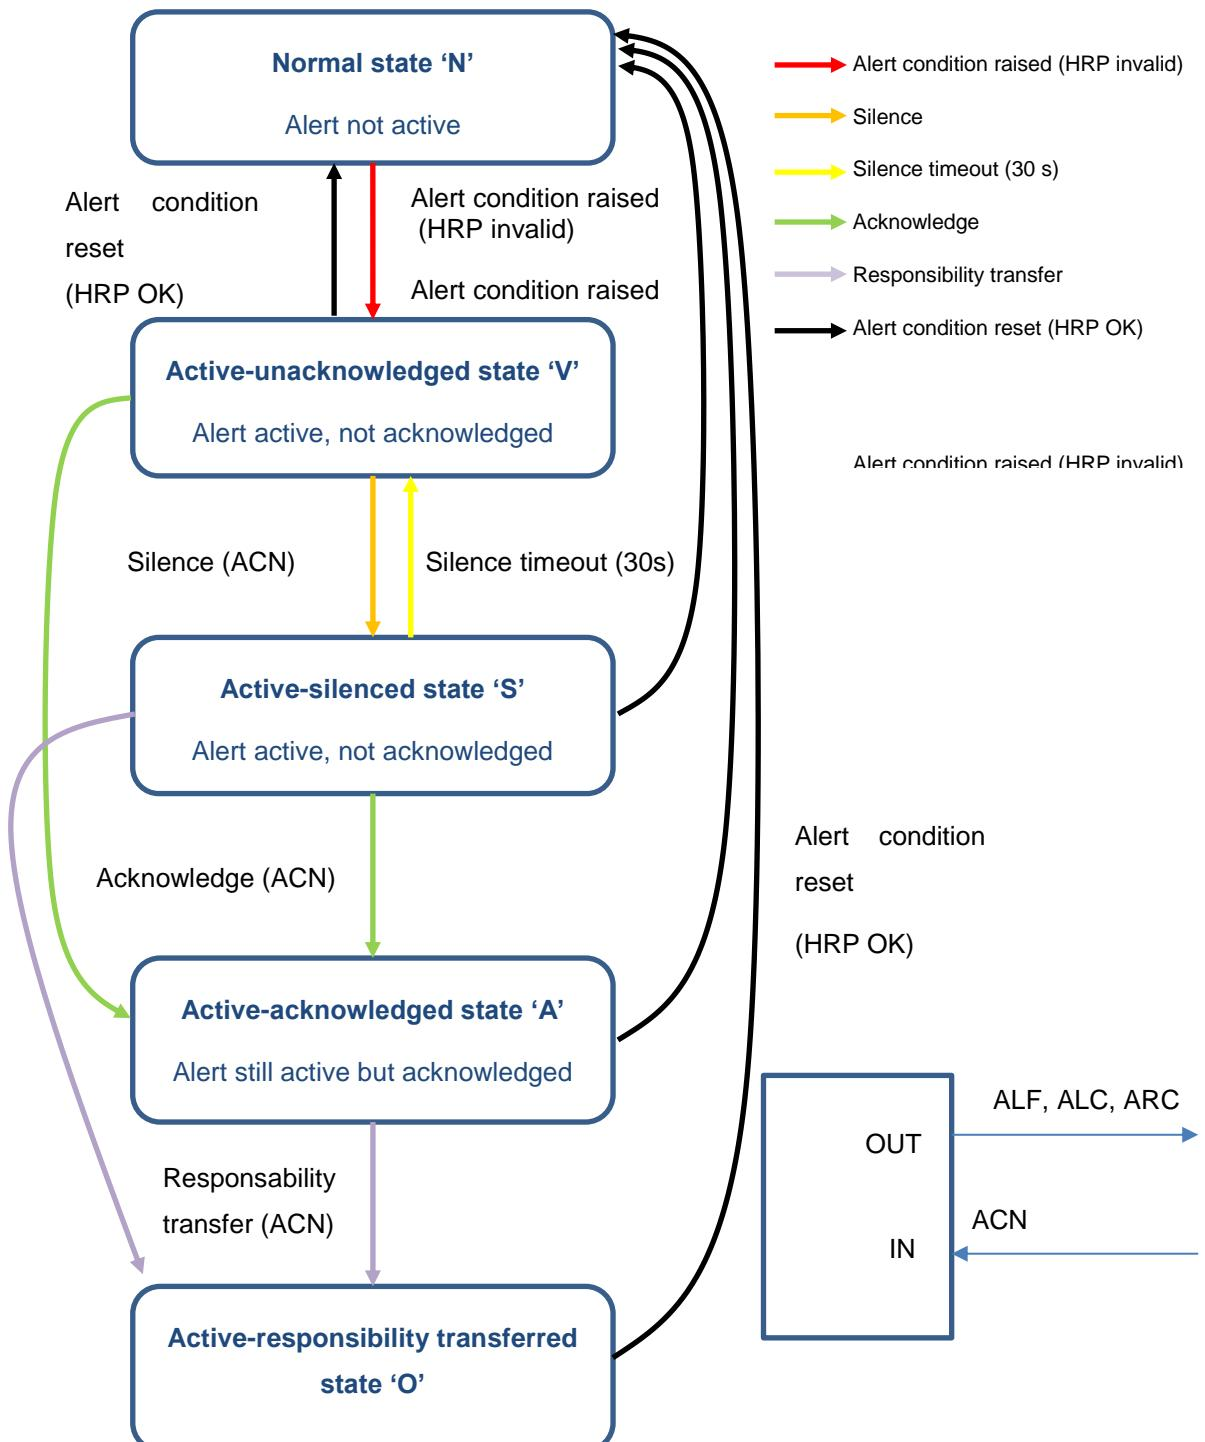

Figure 3 – New alarm state diagram
- New format: ALF/ALC/ARC new alarm mechanism, see Figure 3 for the new alarm state diagram. The system sends an ALF sentence each time the alarm internal state changes.